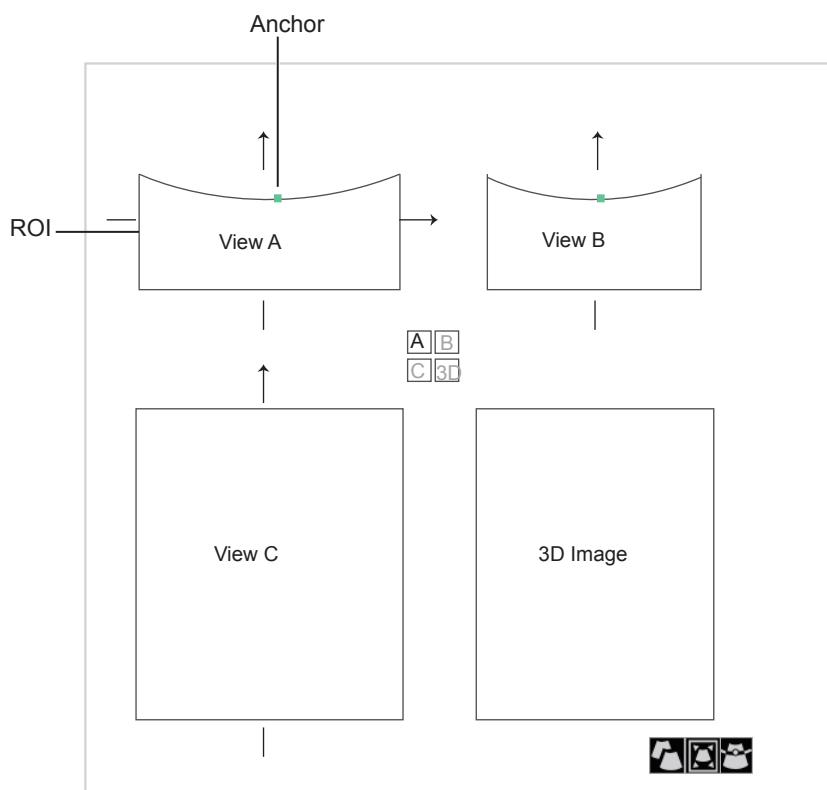

Figure 8-3 Cropping Review Screen
3. Crop the image of View A, View B or View C, as shown in Figure 8-3.